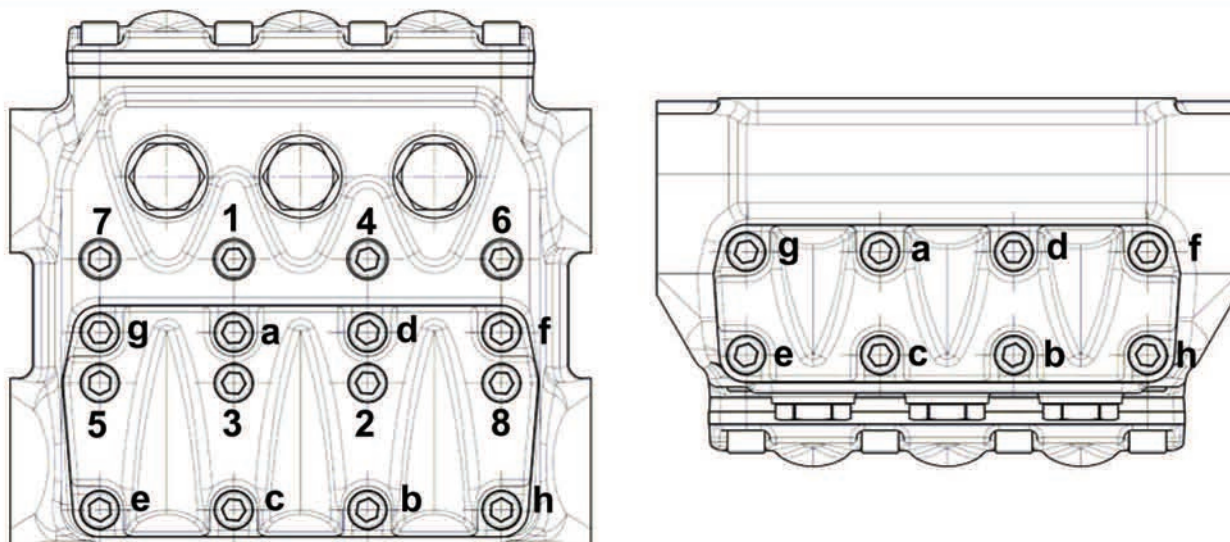

fig. 43
*** The valve cover fastening screws, exploded view position 45, must be tightened with a torque wrench, lubricating the threaded stem and respecting the order indicated in the scheme in fig. 43